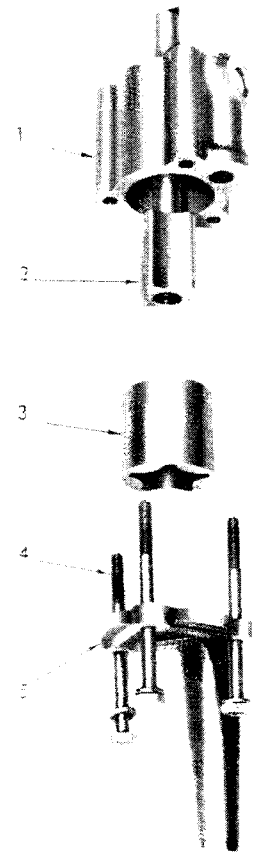

Fig. 38. Oil pump details
Renew worn and unserviceable items. Fit the inner rotor (2) Fig. 38 to the oil pump housing (1), followed by the outer rotor (3), with its chamfered face leading. Seat the assembly in the crankcase, attach the end plate (5) and secure the assembly with three bolts (4).